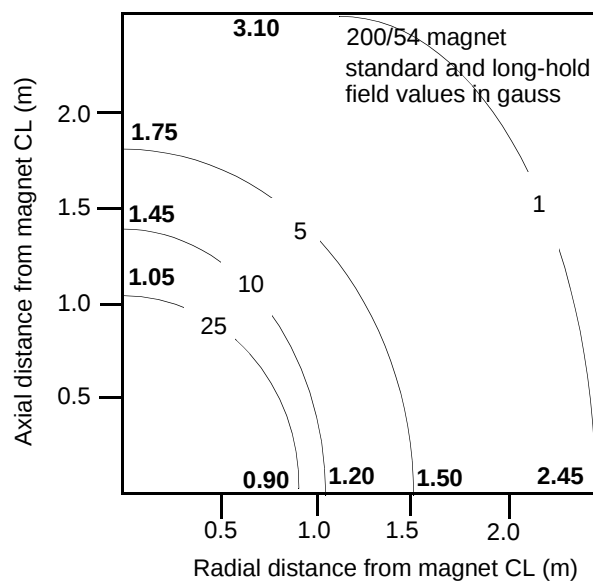
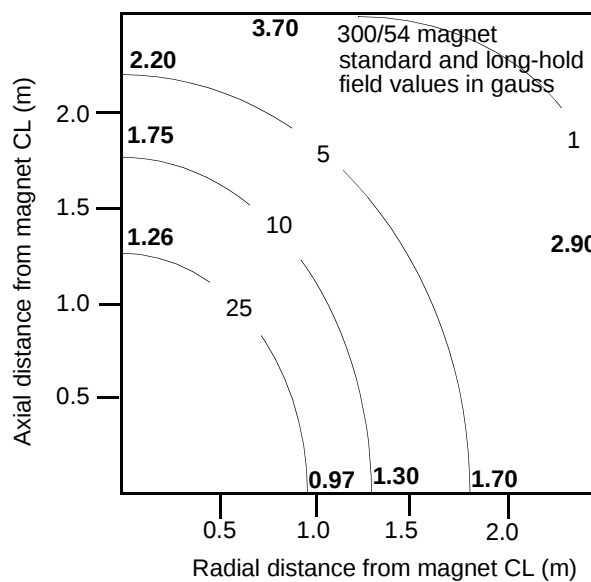
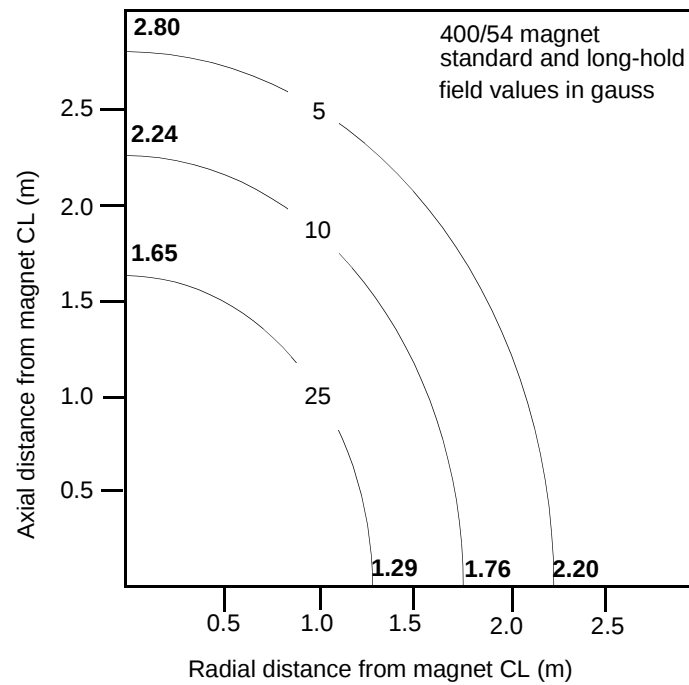
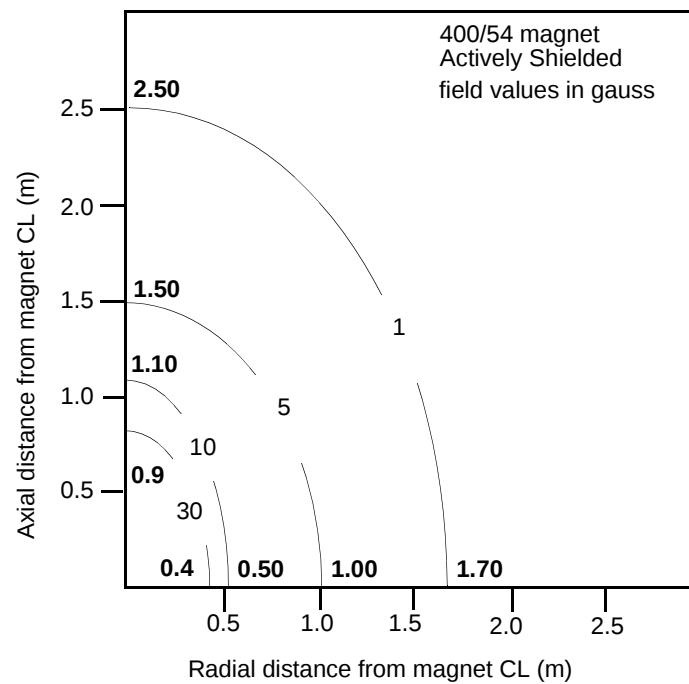

Figure 5. Stray Field Plots for 200-MHz Magnets
Figure 6. Stray Field Plots for 300-MHz Magnets
Figure 7. Stray Field Plots for 400-MHz Magnets
Figure 8. Stray Field Plots for Actively Shielded 400-MHz Magnets
Figure 5, Figure 6, Figure 7, Figure 8 and show stray field plots for 200, 300, 400, and 400 actively shielded systems, respectively. The axial (vertical) and radial (horizontal) distances shown are measured in meters from the magnet center line (CL). The values are typical but may vary between individual magnets. Gauss levels should be checked after a particular magnet has been installed.